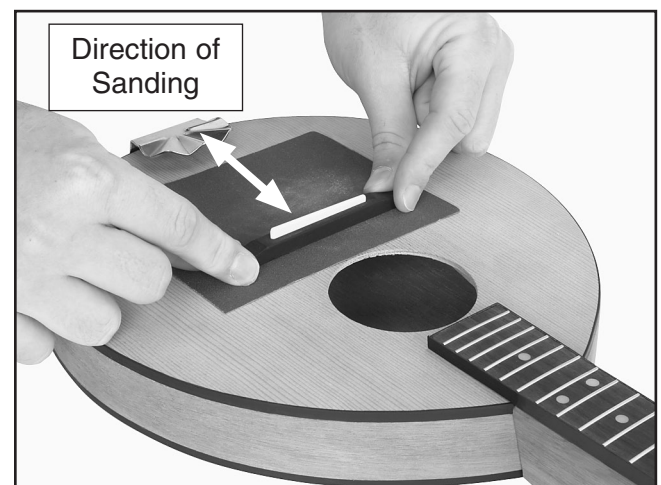

Figure 26. Fitting the bridge to the soundboard.
1. Place the bridge on a piece of sandpaper, grit side up, 350mm from the nut as shown in **Figure 26**.